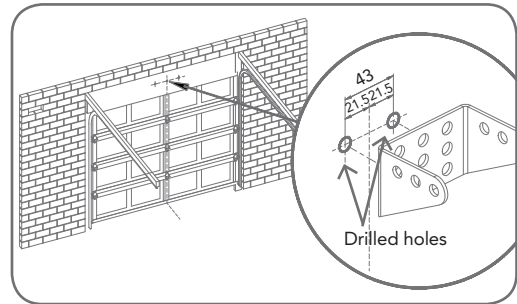

fig 17
- Determine the centre point on the wall above and on top of the door. Draw two lines extending 21.5mm from each side of the centre point. (**Fig. 17**)
- Centre the bracket over the intersection of these two lines. Mark centres for at least two holes (**Fig. 17**).